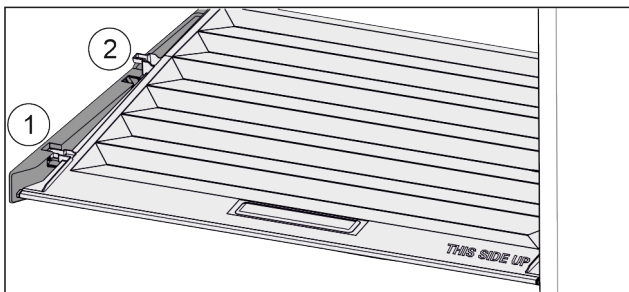

Fig. 94
- ▶ Pull the lid up at the front in the retaining parts to the opening *Fig. 94 (1)*.
- ▶ Lift from the back and pull it up and out *Fig. 94 (2)*.